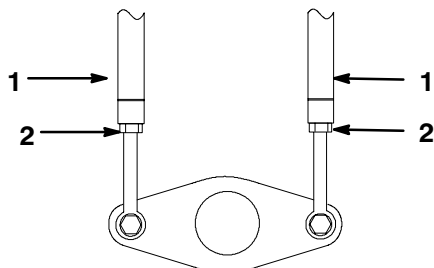

Figure 23
5. Loosen the jam nuts on the traction rods, under the control panel (Fig. 23).